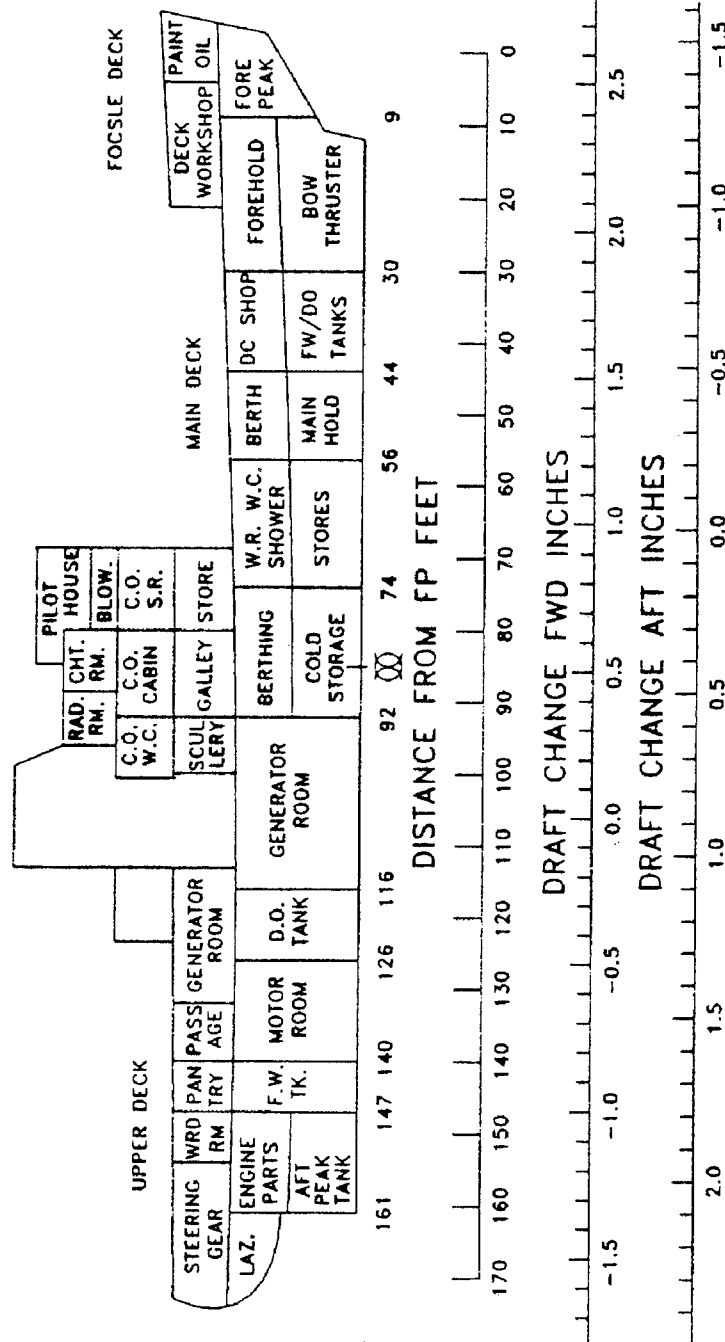

Fig. 7-7 Typical trim table
- i. Predicting changes in trim due to adding, deleting, or shifting weight about the cutter, is done by using the stability booklet's Trim Table. The table consists of a simplified profile view of the ship with a graph below the various compartments that indicates how much a standard weight placed in that space will affect draft. For example, in **Figure 7-7** we see that if a 133' WLM loaded 2.5 tons into the forward hold, the draft change would be determined as follows:
- (1) The Trim Table shows that a 5-ton addition to the forward hold would increase draft forward by 2.1 inches and decrease draft aft by .5 inches. Since the weight in the example is one half of the standard 5-ton weight, the change in drafts will be one half of the charted change, or an increase of 1 inch forward, and a decrease of .25 inches aft. Trim will change .75 inches down by the bow.
- (2) You must remember that this table is based on additions or removals of weight. If an existing weight is shifted, subtract it from its old position, then add it in its new position if an accurate determination is desired.
- i. The change in the vertical center of gravity (KG), is another important measure of vessel stability. The maximum and minimum KGs for a certain cutter have been determined by the designer and personnel must ensure that these limits are not